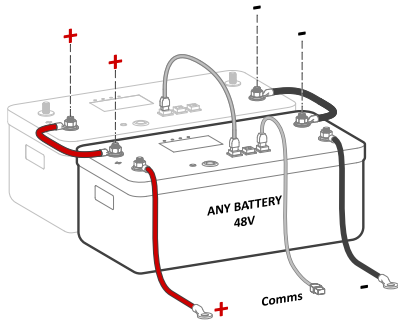

Figure 5a: 48V batteries in parallel connection
- Depending on the battery voltage, wire up the battery bank in the possible configurations shown in figures 5a-5c.